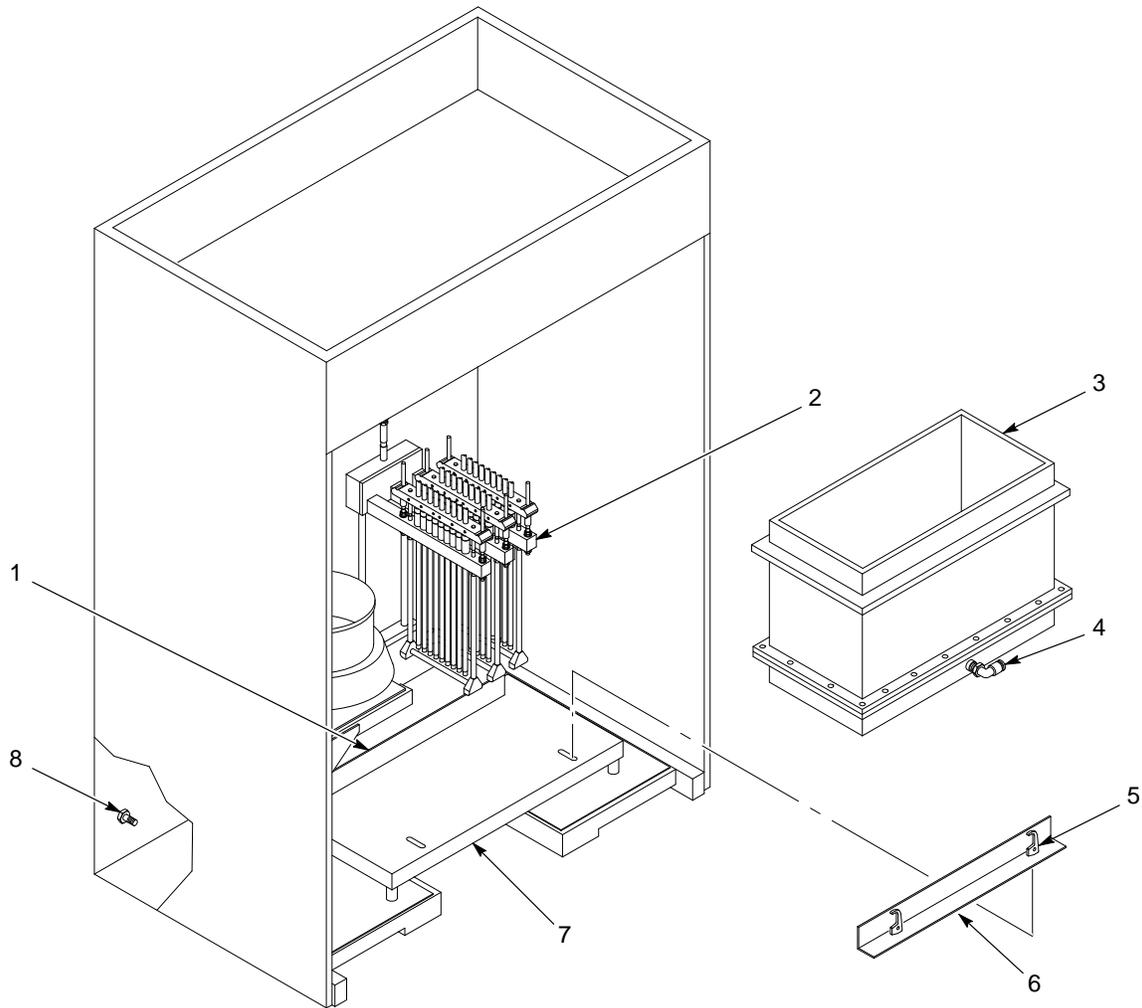

Figure 10-2 Fluidizing Hopper Installation
- See Figure 10-2. Remove the front box guide (6) by disengaging the clamping levers (5). Set the front box guide aside.
- Remove the lid and fill the fluidizing hopper (3)  $\frac{2}{3}$  full of powder.
- Set the fluidizing hopper on the vibratory table (7) and slide it back against the rear box guide (1). Make sure that the fluidizing hopper is centered under the lance assembly (2).
7. Connect 10-mm air tubing between the 10-mm elbow (4) on the hopper and the 10-mm bulkhead fitting (8) on the rear wall of the feed center.